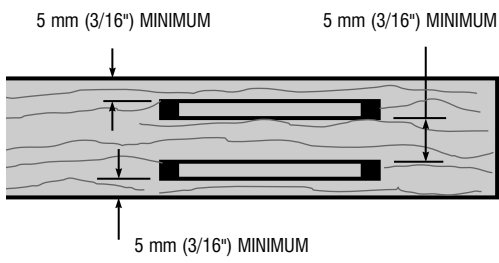

FIG 19
2. FRAME JOINTS (See Figure 19)
Frame joints are an ideal application for biscuit joinery. With the plate joiner you can create a very strong, precise joint that is much faster to make than a dowel or mortise and tenon joint. Figure 19 shows two types of frame joints. Follow the steps outlined below.